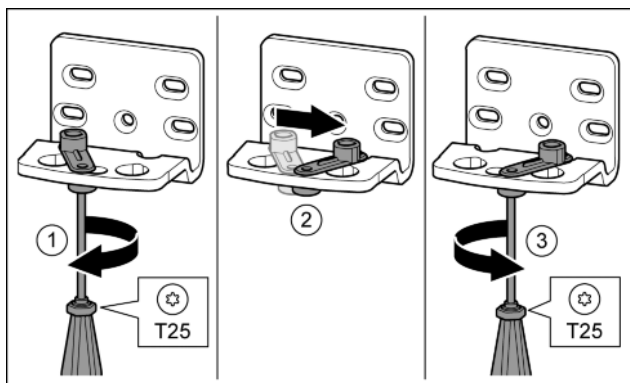

Fig. 12
- ▶ Loosen the screw using a T25 screwdriver. Fig. 12 (1)
- ▶ Lift the door closure aid and turn it 90° to the right in the hole. Fig. 12 (2)
- ▶ Tighten the screw using a T25 screwdriver. Fig. 12 (3)